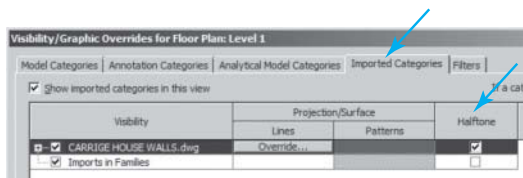

Figure 3-16
11. This will turn off all the walls except the A-Walls and B-Walls in the AutoCAD drawing (see Figures 3-16, 3-17, and 3-18).